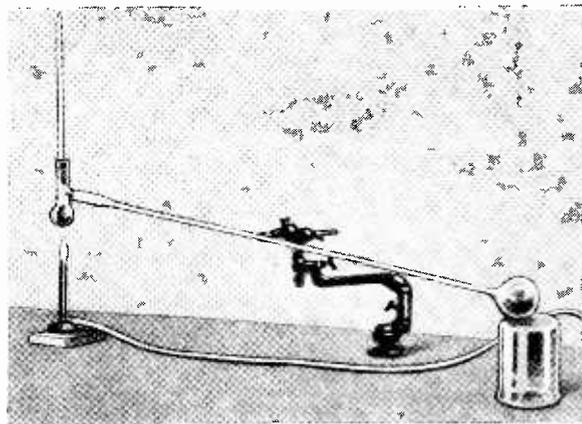

Fig. 2—The phenol is distilled from a small flask with an air condenser. A thermometer is attached to the flask. Phenol boils at 183° C.
**Preparation of phenol:** In an iron dish melt 50 grams of sodium hydroxide after adding 2-3 cc. of water. Add gradually 10 grams of powdered sodium benzenesulphonate, stirring constantly. Keep fused for 20 minutes, but do not heat much above the fusing point. Cool and dissolve in 200 cc. of water. Add concentrated hydrochloric acid until the solution is only slightly alkaline, and filter to remove iron hydroxide. Acidify the filtrate, cool and extract with 100 cc. of ether in three portions. Unite the ether extracts and evaporate the ether on a water bath, using the usual precautions. Transfer the residue to a small flask equipped with a thermometer and attached to an air condenser as shown in Fig. 2 and add a few cc. of ether. Distill off ether again and then distill over phenol, which boils at 183° C. If pure, it will solidify on cooling.